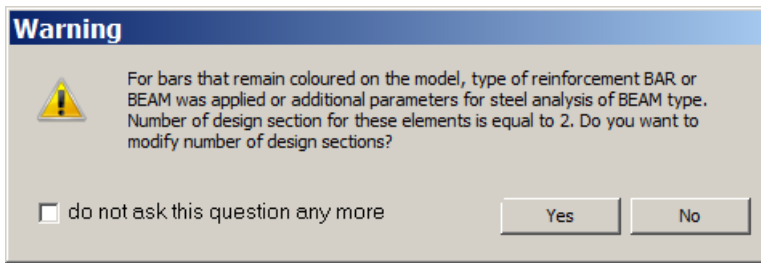

Figure 19.15 **Warning** box
- ⇒ In the **Warning** box (see Fig.19.15), click **OK**. (This warning is displayed because type of reinforcement 'Beam' was applied to selected bars. Number of design sections in these bars is equal to 2, but for design of flexural element, forces should be computed in three or more sections.)